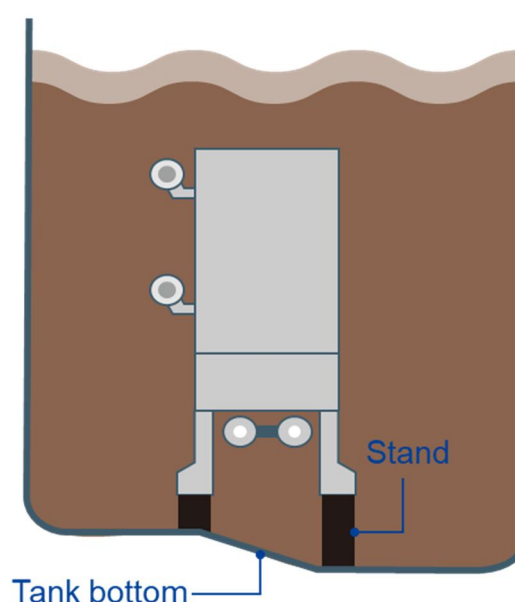

Figure IV-7: Installation with Stands (side view)
*** Contact Toray if there are any issues with the layout of modules, such as installing modules in the existing tank. If the existing tank floor is not level, it is recommended that stands be installed as shown in Figure IV-7.**